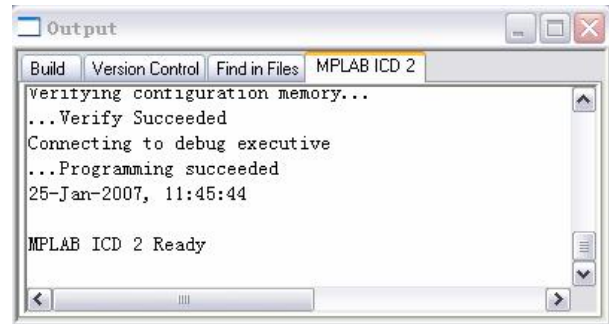

Figure 5-5 Programming Information
- 5) Implement menu command Debugger → Program or the icon in the tool bar to program/burn the objective codes to the target MCU chip (Note: now the MCU cannot run on offline mode but has to be run under debugging mode), after programming it will show a message as in Figure 5-5.